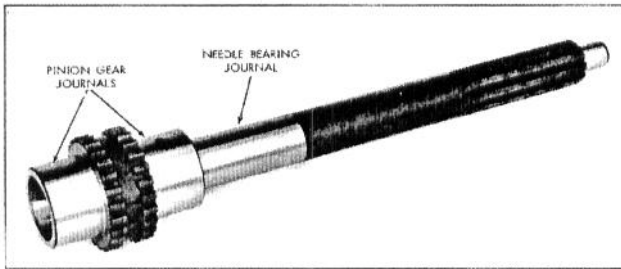

Fig. 7 - Main Input Shaft
1. Visually inspect the input shaft for wear or damage. If the shaft appears serviceable, measure the bearing journals. If either of the pinion gear journals measures 1.748", or less, the shaft must be replaced. If the needle bearing journal measures 1.123", or less, the shaft must be replaced. See Fig. 7.